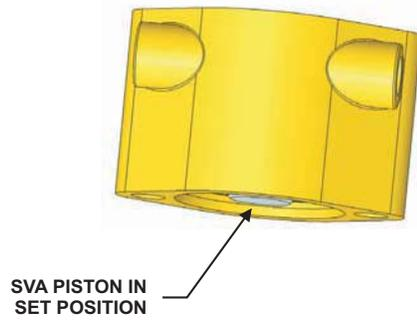

Figure 4-8. SVA in 'Set' Position
4. Ensure the piston of the SVA is in the 'Set' position. See Figure 4-8.